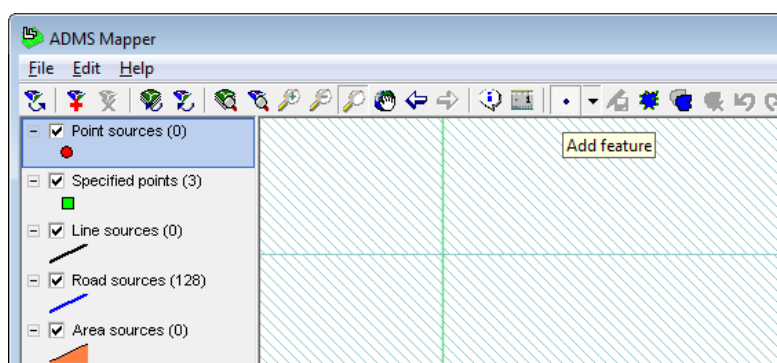

Figure 7.21 Selecting the **Add feature** tool for **Point sources**.
- Step 7** To add a new point source, click on the **Add feature** button  in the toolbar at the top of the screen, as shown in **Figure 7.21**.